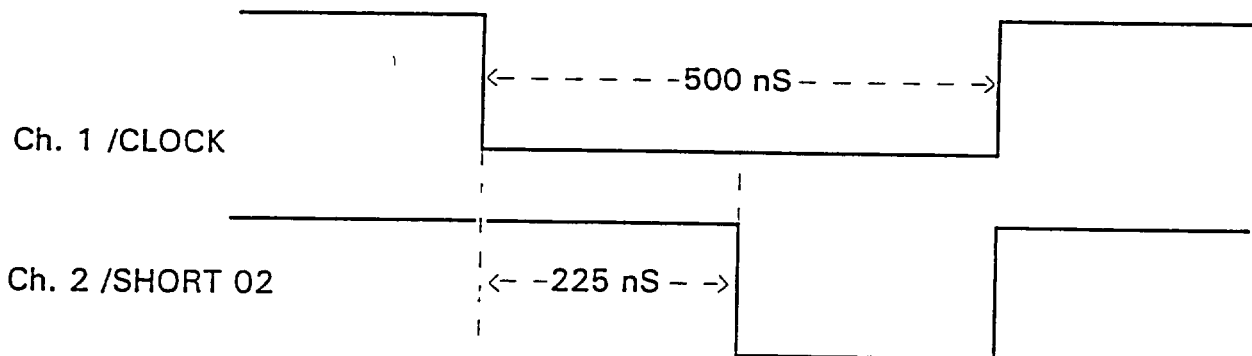

FIGURE 2
- 6.5 Adjust VR13 to obtain a 225 nS delay between the negative going edge of Channel 1 and the negative going edge of Channel 2 as shown in Figure 2. Paint VR13.